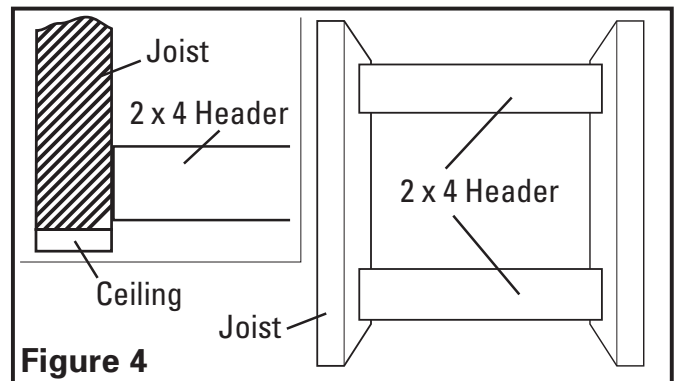
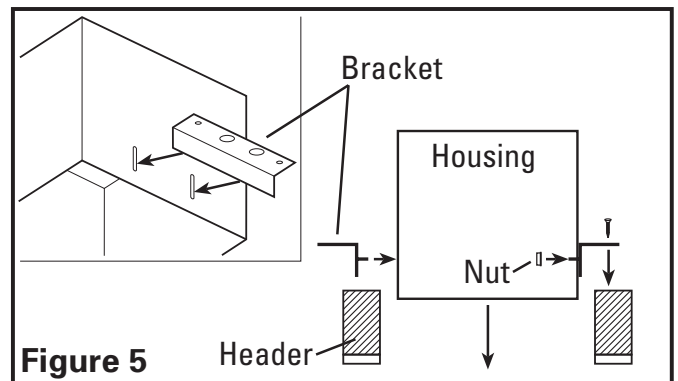

Figure 4
Figure 5
- 1c. **Installation on 24" Centers Joists or Larger than 2x6 Joists on 16" Centers:** Install two - 2x4 headers (not included) between the joists (**Figure 4**). Install the mounting brackets through the top set of slots on the fan housing and secure in place with the four included #10-32 nuts as shown. Position the fan housing between the headers and secure the mounting brackets with screws or nails (not included) to the header. Adjust the height of the housing so that it is flush with the finished ceiling by loosening the mounting bracket nuts and sliding the housing up or down on the bracket. Fully tighten all four nuts to secure the housing in place (**Figure 5**).